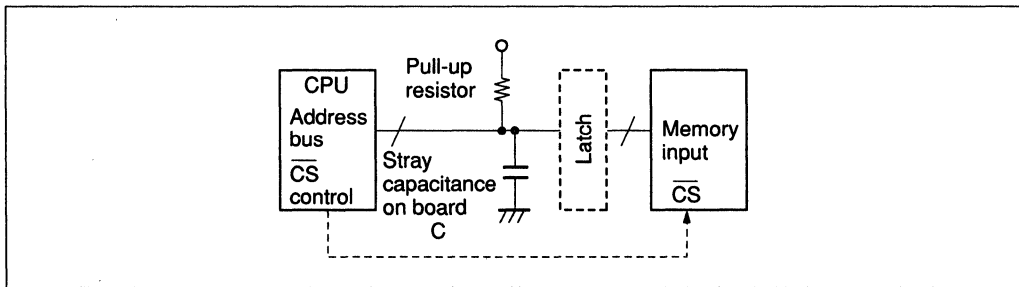

Figure 3-7
Data stored in memory might be destroyed in a case where the address input of a HM6716, HM6719, HM6787, HM6788, or HM6789 series device floats and sticks near threshold voltage\* (e.g., CPU sets the address bus to off state in Figure 3-7). Consequently, the following three methods are recommended to prevent malfunctions of a Hi-BiCMOS memory device.
- A: Insert the latch as shown in Figure 3-7 to keep the address input from floating.
- C: Insert a pull-up resistor (R) to hold the time constant of the rising edge waveform on the address input pin ( $t_r = R \times C$ ) below 150 ns.